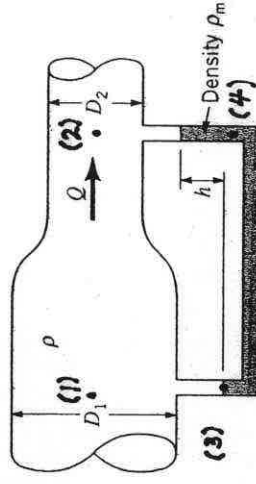

FIGURE P3.47
3.47 An inviscid fluid flows steadily through the contraction shown in Fig. P3.47. Derive an expression for the fluid velocity at (2) in terms of D_1 , D_2 , ρ , ρ_m , and h if the flow is assumed incompressible.